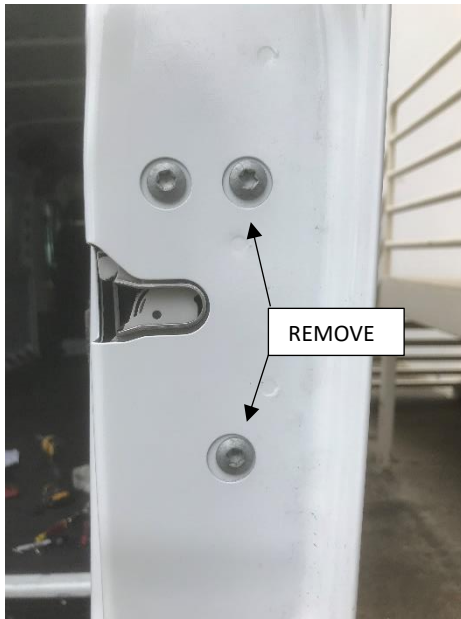

Figure 8: Inner Passenger Door Latch
20. Remove two factory torx screws that hold door latch in place. Set this hardware aside. (Figure 8)